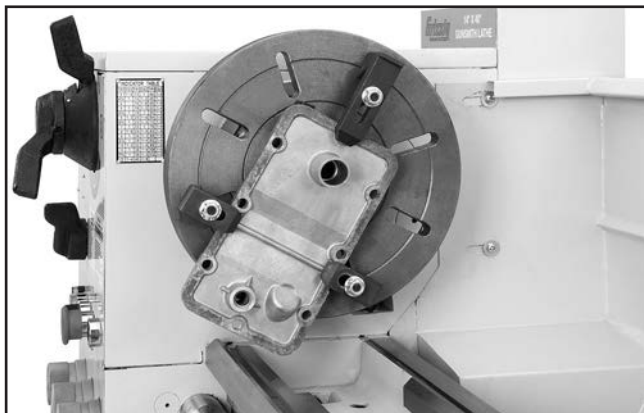

Figure 30. Workpiece properly clamped on the faceplate in a minimum of three locations (tailstock removed for clarity).
5. Clamp the workpiece at a minimum of three locations that are as close to being evenly spaced apart as possible as shown in **Figure 30**.